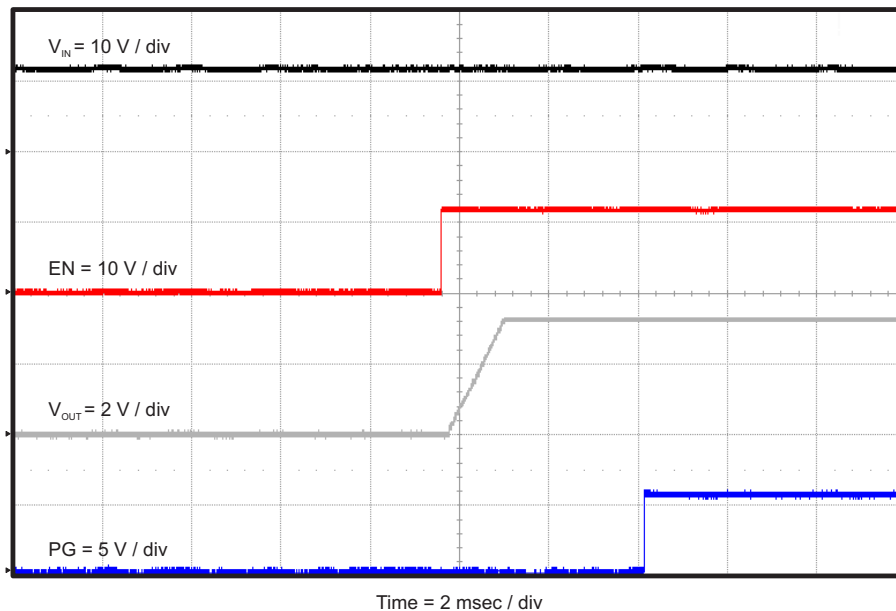

Figure 12. TPS65580EVM-575 CH1 Start-Up Relative to EN
The TPS65580EVM-575 start-up waveform for CH1 relative to enable (EN) is shown in Figure 12. Load = 4 Ω resistive. The start up waveforms for CH2 and CH3 are similar and not shown.